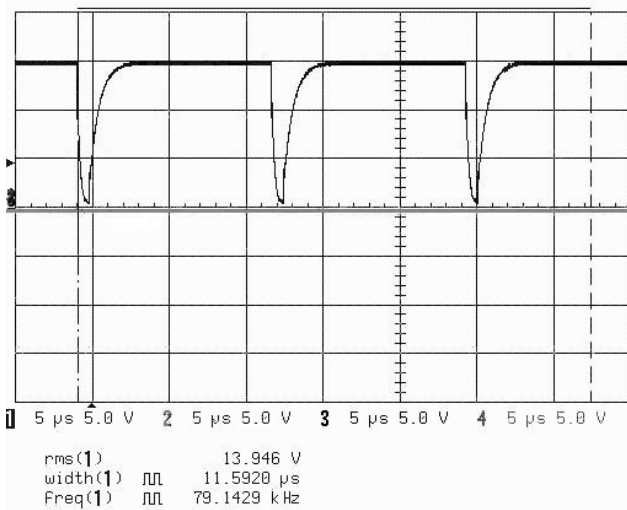

Figure 4.13 PFC Gate Switching at 4VDC
4. Using an oscilloscope check PFC gate switching at TP-5 with respect to TP-2, as shown in Figure 4.13.